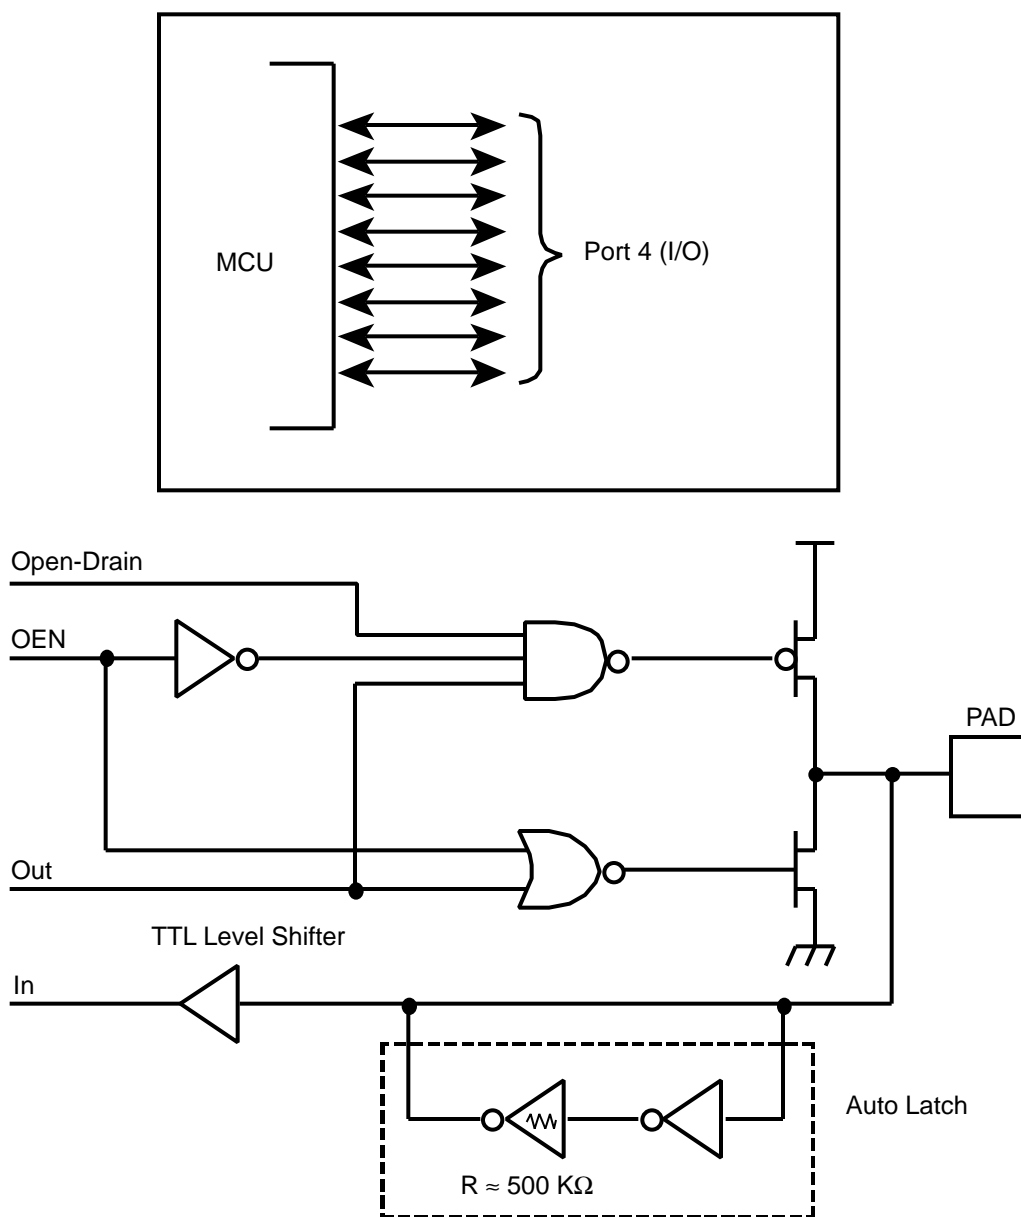

Figure 18. Port 4 Configuration
Port 4 (P47-P40). Port 4 is an 8-bit, bit programmable, bi-directional, CMOS-compatible port. Each of these eight I/O lines can be independently programmed as an input or output or globally as an open-drain output. Port 4 is always available for I/O operation (Figure 18). Port address (F)02.